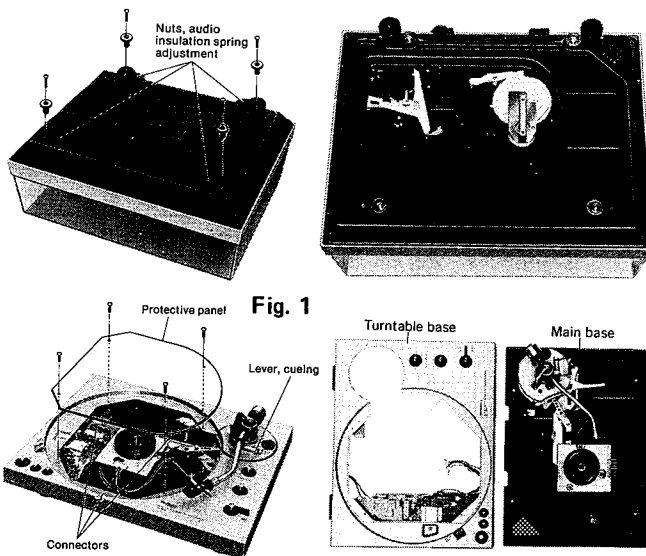

Fig. 3
10. To remove the turntable base from the main base bottom section, turn cueing lever upward (cueing position) and move tone arm towards center of spindle. Top section can be lifted up easily. (Fig. 3).